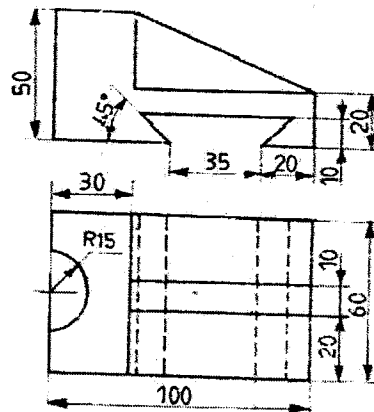

Figure: 1
9. Draw the isometric view for the figure 1 shown below front and top views. All dimensions are in mm. [15]